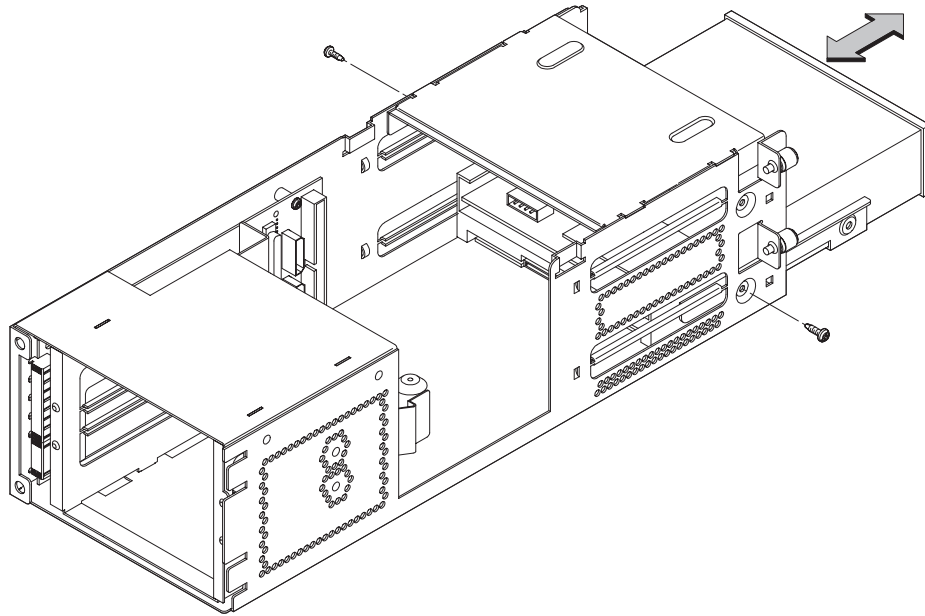

Figure B-7. Removing Drive Screws
- 11.** Unscrew the two screws holding the drive in the storage drawer, and slide the drive out of the drawer. See Figure B-7.